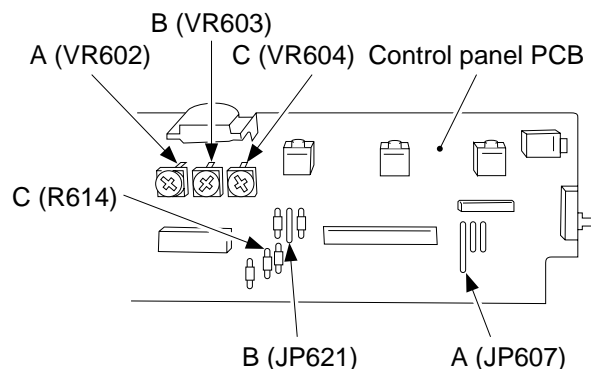

Figure 10-201B (PC420/430/FC220)
- 2) Set the meter to the '200 k' range, and measure C between the terminal of VR604 and the terminal of R614 on the detached control panel PCB; see Figure 10-201B.
- 4) In the case of the PC420/430/FC220, adjust VR602 (A between terminals of VR602 and JP607) and VR603 (Between terminals of VR603 and JP621); see Figure 10-201B.